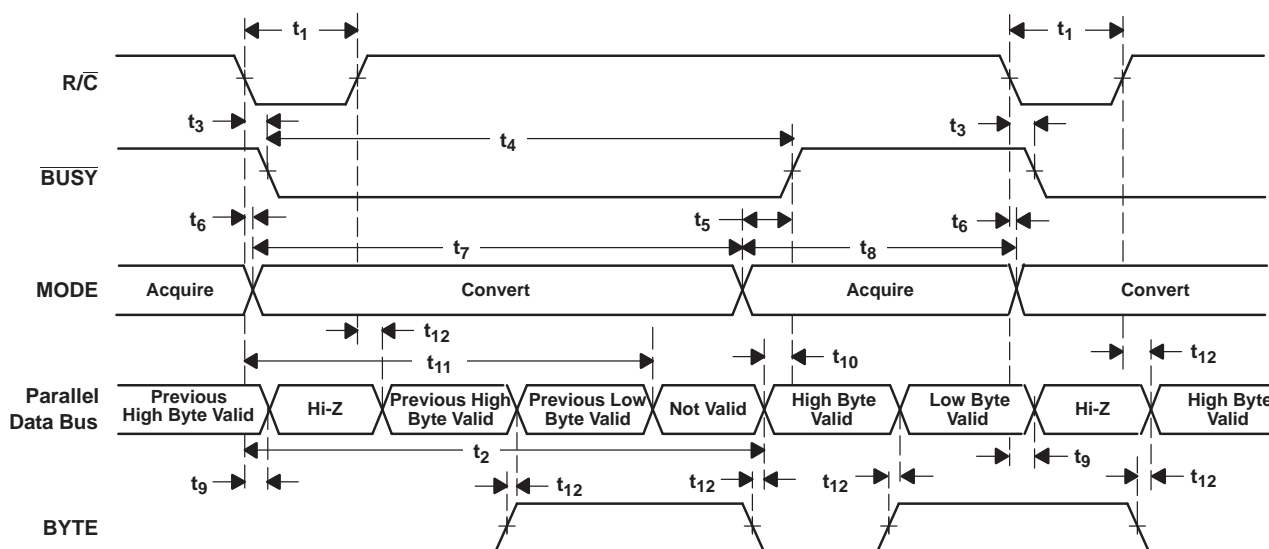
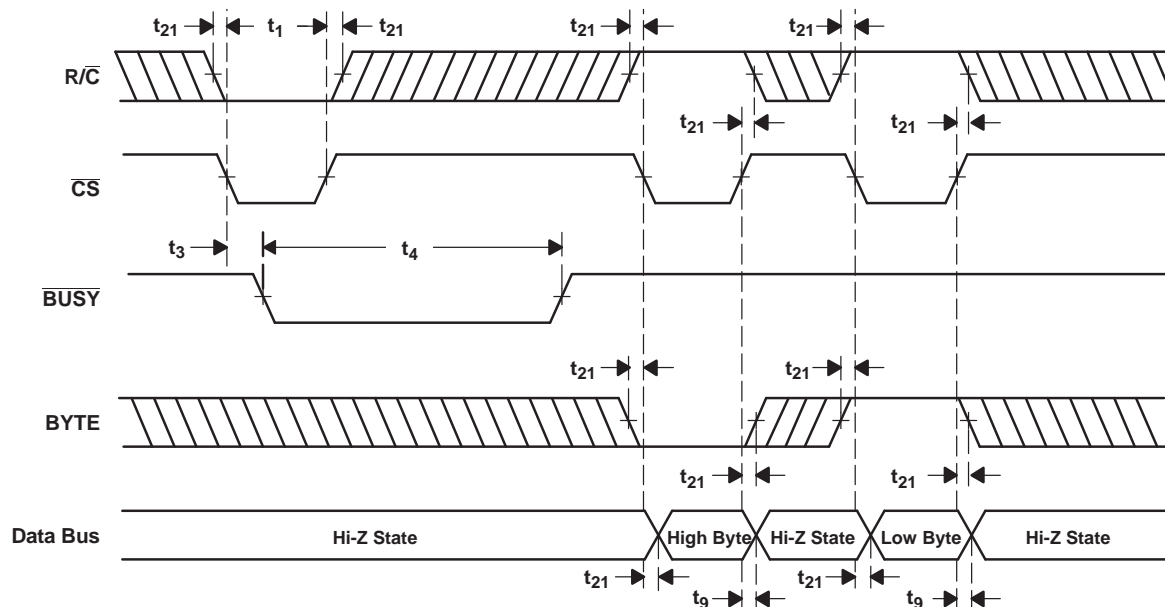

Figure 33. Conversion Timing With Parallel Output ($\overline{\text{CS}}$ and DATACLK Tied Low, EXT/INT Tied High)
Figure 34. $\overline{\text{CS}}$ to Control Conversion and Read Timing With Parallel Outputs
The ADS8506 begins tracking the input signal at the end of the conversion. Allowing 25 μ s between convert commands assures accurate acquisition of a new signal. Refer to Table 2 and Table 3 for a summary of \overline{CS} , $\overline{R/C}$, and \overline{BUSY} states, and Figure 33, Figure 34, Figure 35, Figure 36, Figure 37, Figure 38, and Figure 39 for timing diagrams.
(1) See Figure 33 and Figure 34 for constraints on data valid from conversion $N-1$.
After conversion N is completed and the output registers have been updated, $\overline{\text{BUSY}}$ (pin 24) goes high. Valid data from conversion N is available on D7-D0 (pin 9-13 and 15-17). $\overline{\text{BUSY}}$ going high can be used to latch the data. Refer to Table 5 and Figure 33 and Figure 34 for timing specifications.
After conversion N has been initiated, valid data from conversion $N-1$ can be read and is valid up to 12 μs after the start of conversion N . Do not attempt to read data beyond 12 μs after the start of conversion N until $\overline{\text{BUSY}}$ (pin 24) goes high; this may result in reading invalid data. Refer to Table 5 and Figure 33 and Figure 34 for timing constraints.